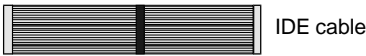

Figure 1-1
- One 40-pin IDE connector ribbon cable (Figure 1-1)